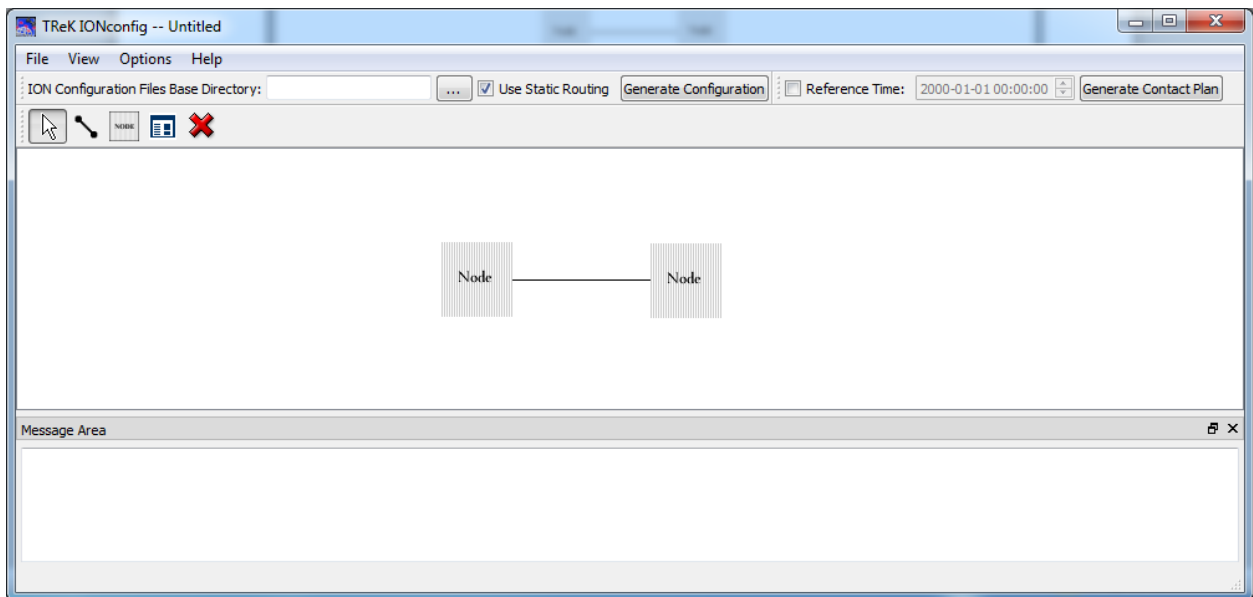

Figure 8 Two Nodes Connected
2. Push the Duct tool button on the Drawing toolbar. Use the left mouse button to draw a line between the two nodes as shown in Figure 8.